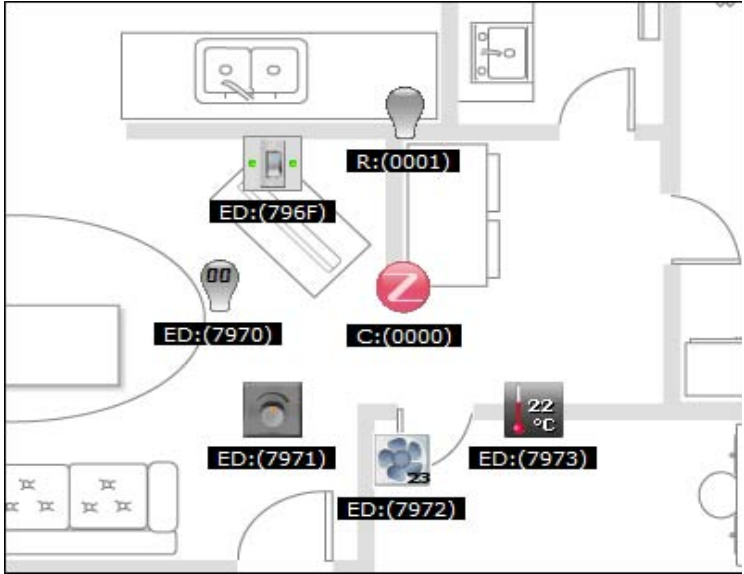

Figure 6. ZigBee Main Window Showing the ZigBee Nodes as Icons
6. ZeD now displays the node ZigBee Home Automation endpoints as icons on the ZeD House Plan as shown in Figure 6. The icons have the ZigBee Device Type (C for coordinator, R for router and ED for end device) and the network address of the node on the label.